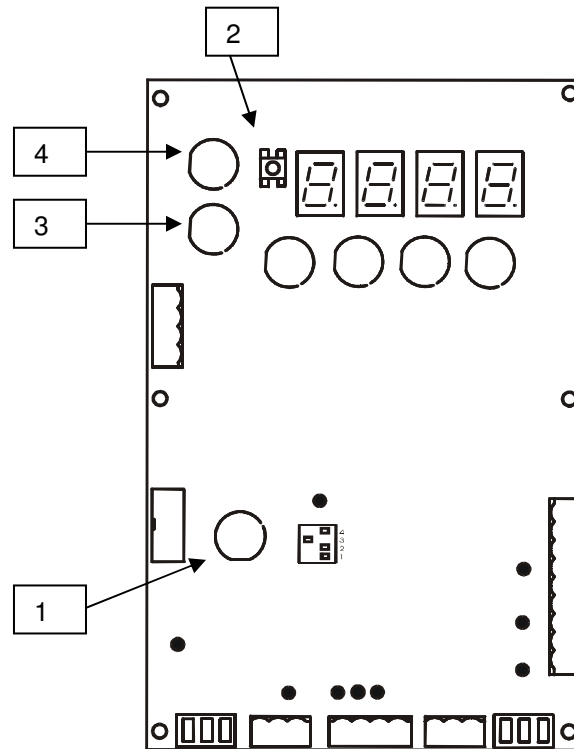

Fig4-3 Bedienelemente zur Türweitenermittlung
- Press the button —door-width determination“ (Fig. 4-3/1) and keep it pressed. Press the Re-set button (Fig. 4-3/2) and release it. Once the door sets in motion, you can also release the —door-width determination“ button.
- 10 - Using the service button —close door“ (Fig. 4-3/4) the door can now be closed. The service button —open door“ will (Fig. 4-3/3) will open the door. When moving the door with these service buttons —close door“/“open door“ the button needs to remain pressed until the —open“ or —closed“ door position has been reached. Previous release will stop the door motion immediately. The open or closed state is only achieved once the status display (Table 2-1) indicates so. The service buttons are parallel to the control inputs X6.